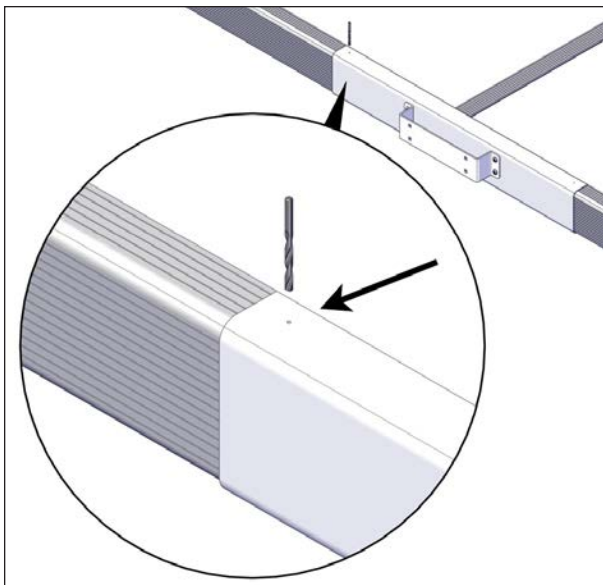

FIGURE 66: HOLE DRILLING THROUGH THE C-CHANNEL
6. Use the provided 5/32" drill bit to drill the holes on the top and bottom of the support bracket see Figure 66. Use the pre-drilled holes in the support bracket as guidance.